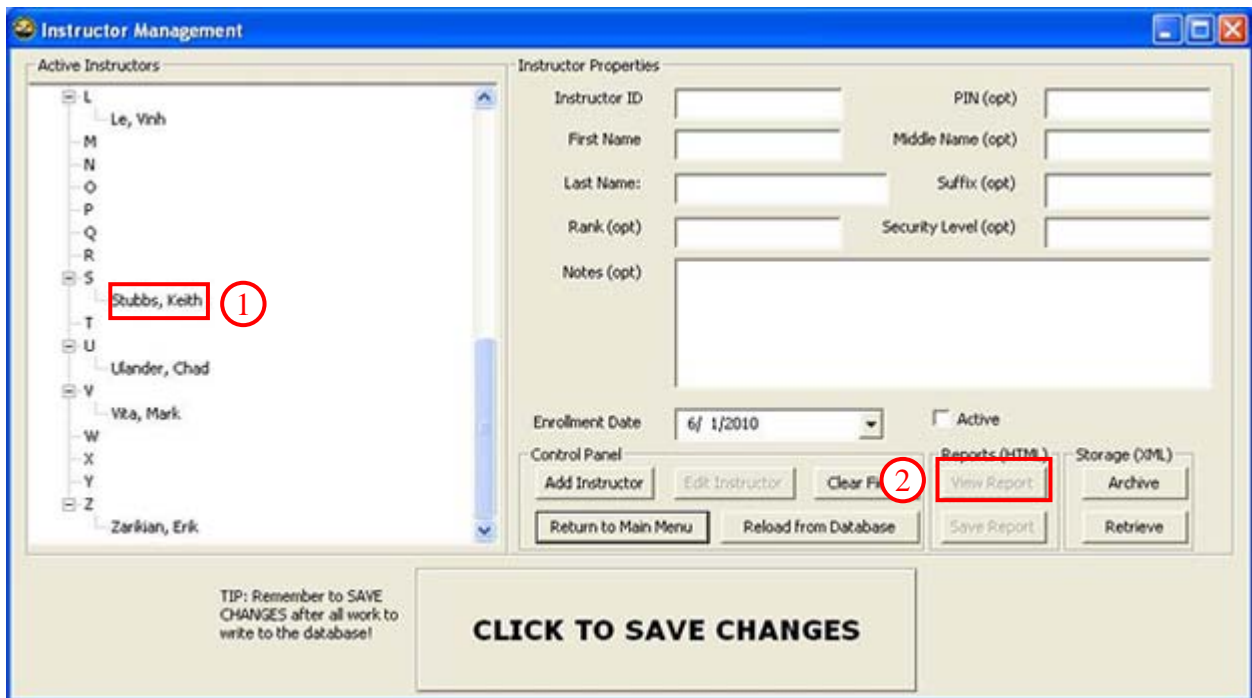

Figure 37. Instructor Management, View Report
1. Select an instructor from the Active Instructors list (Figure 37).